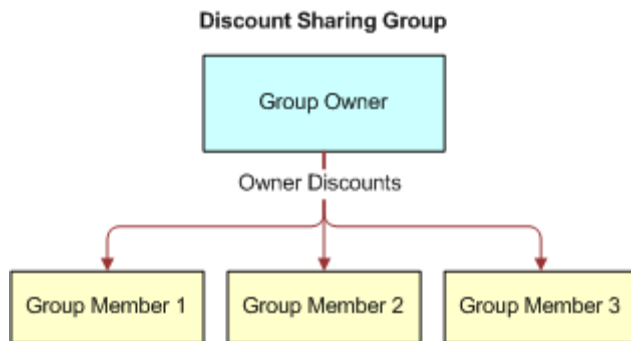

Figure 129. Discount Sharing Group
- **Discount sharing groups** provide a way to share a discount or resource (for example, free or discounted minutes) among multiple accounts or services. Discount sharing occurs when an account or service shares its discounts with the services of other accounts. The account that shares its discounts is the owner of a discount sharing group. Figure 129 illustrates a discount sharing group.